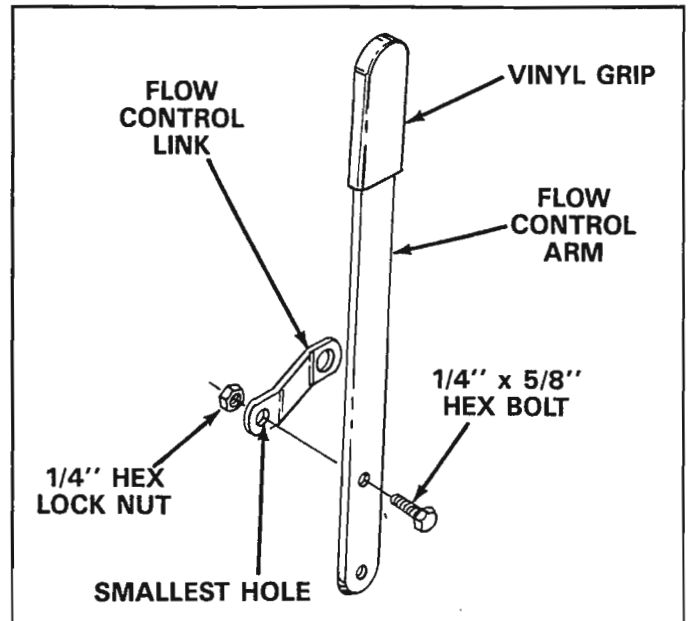

FIGURE 10
16. Place vinyl grip on the flow control arm. See figure 10.